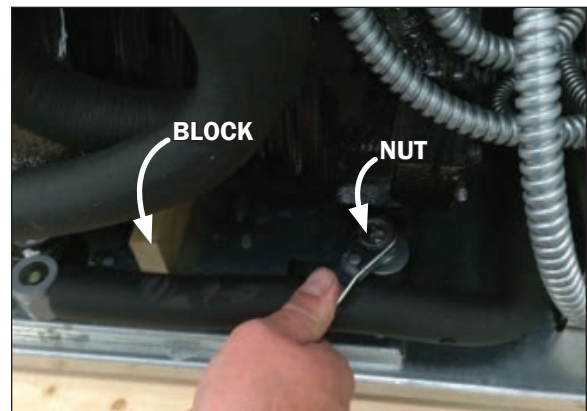

Fig. 6 Shipping block and nut
3. To remove the wood compressor shipping block, the four retaining nuts will need to be loosened (Fig. 6). Once the nuts are loose the shipping block can be easily removed.